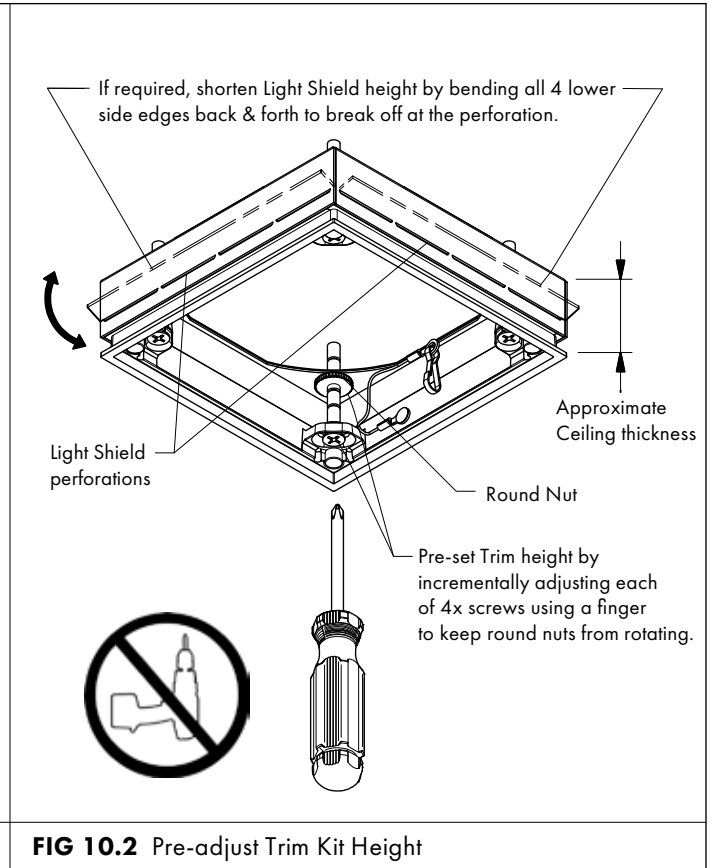

FIG 10.2 Pre-adjust Trim Kit Height
- Note:** For some installations the Light Shield will need to be shortened in height. To shorten Light Shield simply snap off short perforated edges on all sides by repeatedly bending them back & forth. Straighten remaining sides of Light Shield by hand bending if warped - **FIG 10.2**.